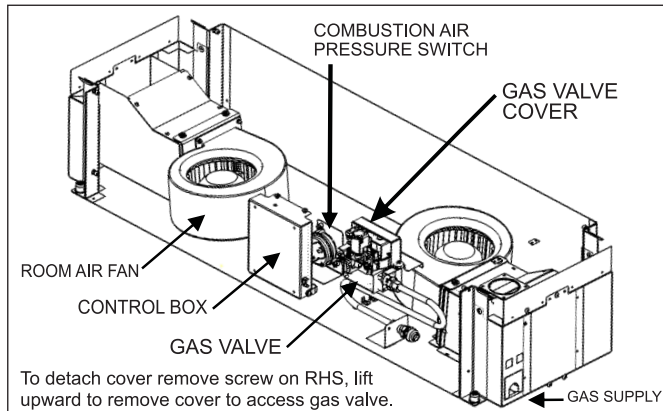

FIG 52 Internal layout of bottom of unit
3. See **FIG 52** for Gas Valve location.